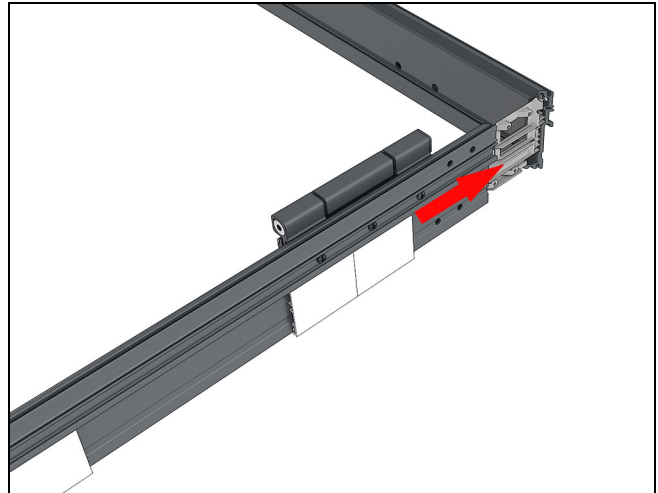

Figure 14
3. Slide the jamb frame members onto the head jamb corner key. See Figure 14.